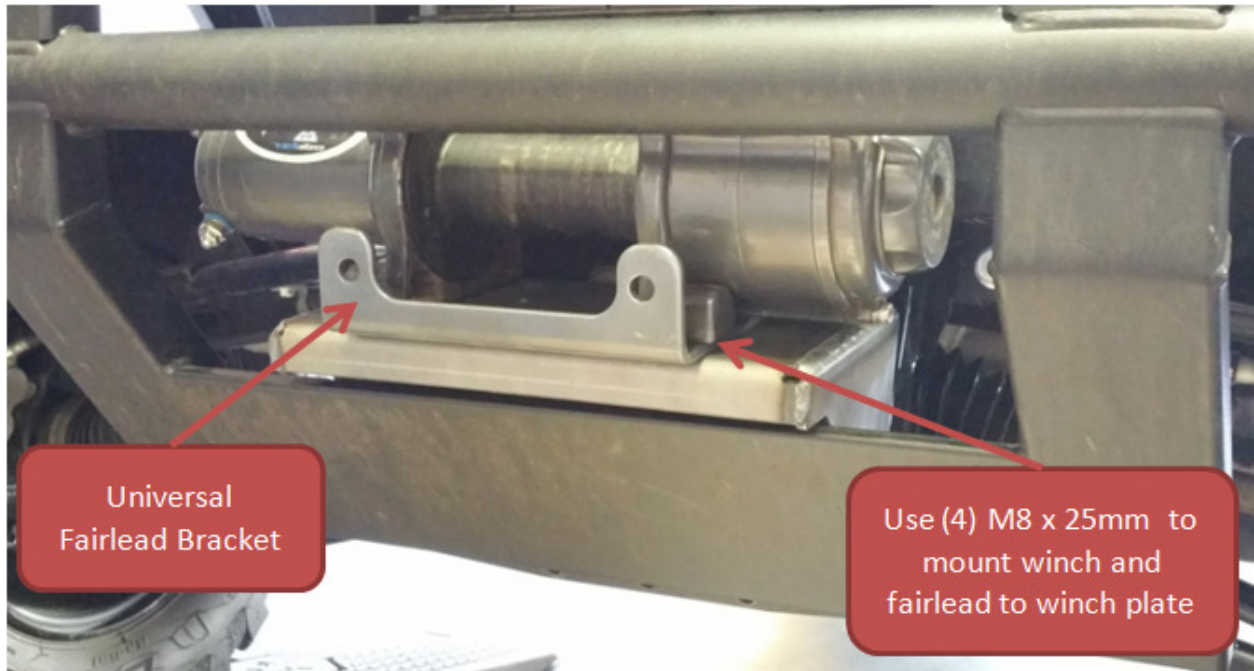

Figure 4
4. All Viper winches include two sets of M8 hardware, one set is 20mm long and one is 25mm long. Use the four (4), 25mm hex bolts to mount the Winch and Universal Fairlead Bracket, included in all Viper winches, to the Winch Mount Base Plate, as shown in Figure 4.